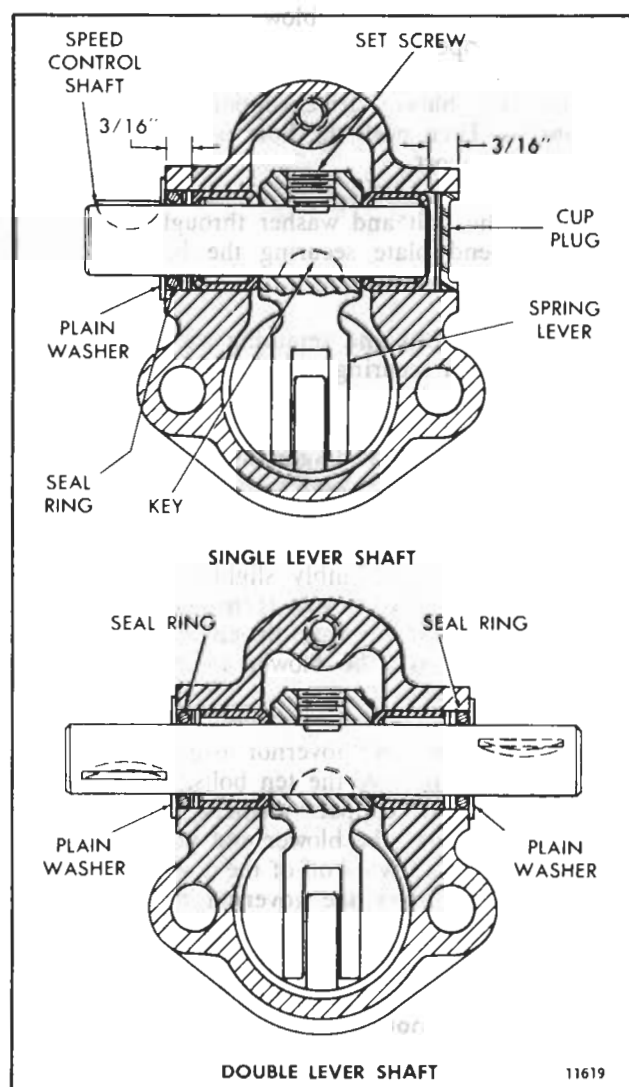

Fig. 6 - Cross Section of Governor Variable Speed Spring Housing
- c. Remove the pipe plug in the top of the variable speed spring housing. Then remove the variable speed spring lever set screw from the speed control shaft and spring lever (Fig. 6).